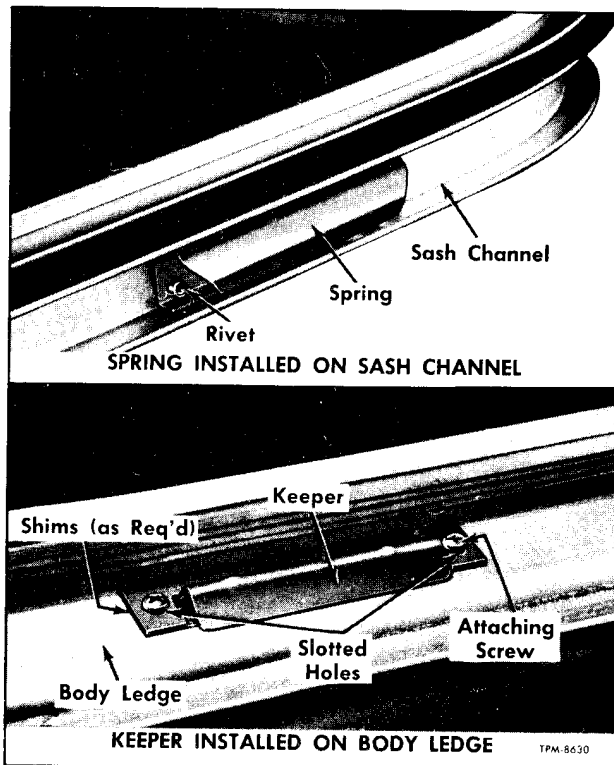

Figure 8—Long Side Sash Push-out Spring and Keeper Installed
1. Before installing window, inspect window outer seal and rubber support blocks. Replace if necessary. Also check condition of push out springs and keepers at bottom of sash. Figure 8 shows springs and keepers installed. If necessary, either can be readily replaced.